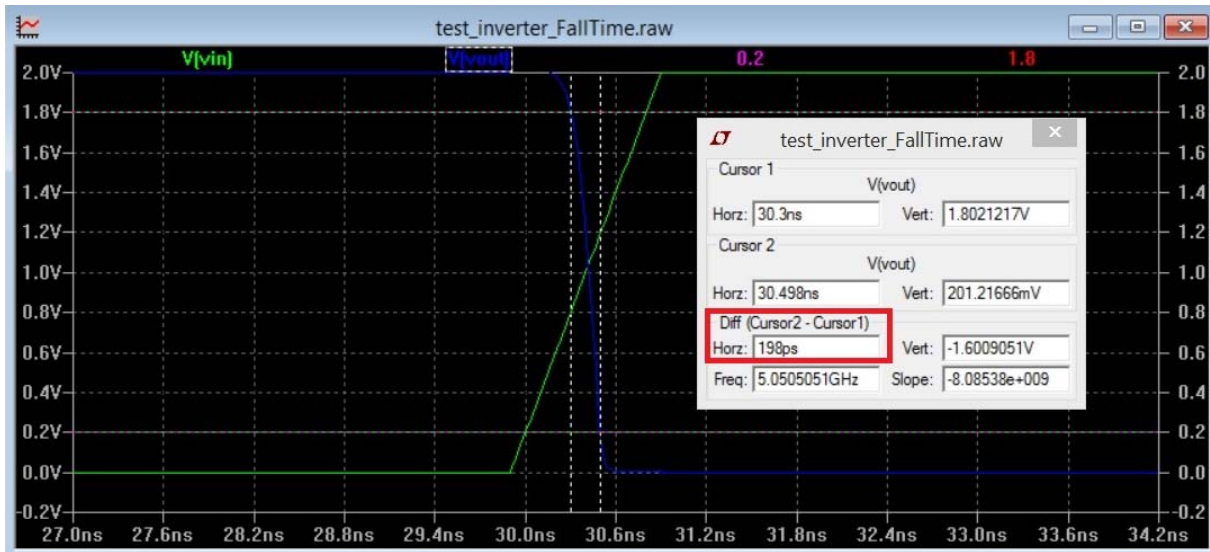

Figure 34. Capture the fall time from graph
- F. Then, move the courses to the falling edge of Vout to find the fall time as Figure 34. The fall time equals to 198ps.